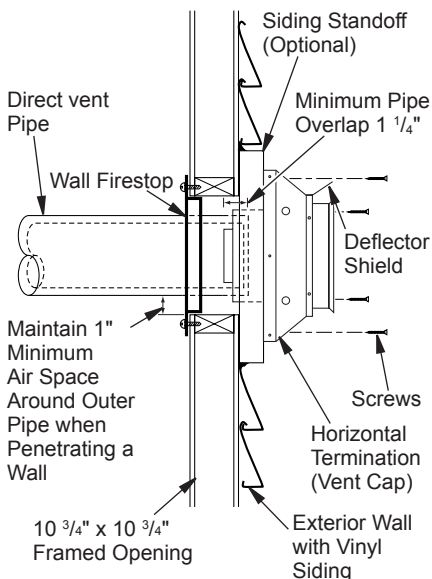

Figure 7 - Vent Termination (Horizontal)
4. Allow 1" of pipe to protrude from internal wall, depending on wall thickness. See Figure 7, page 11.
5. **For horizontal installation**, an optional siding standoff may be installed between vent cap and exterior wall. Secure horizontal vent cap to standoff. Secure standoff/vent cap assembly to wall (see Figure 7). Do not seal termination to vent pipe. Vent termination must be removable for service pipe inspection.